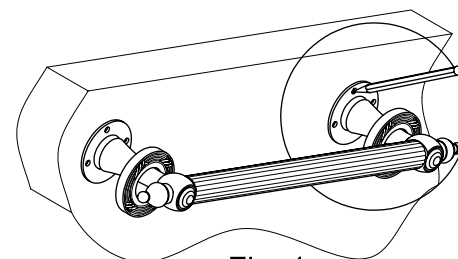

Fig. 1
- Step 1. Locate position on the wall and mark location of the holes for mounting screws. (Fig.1)